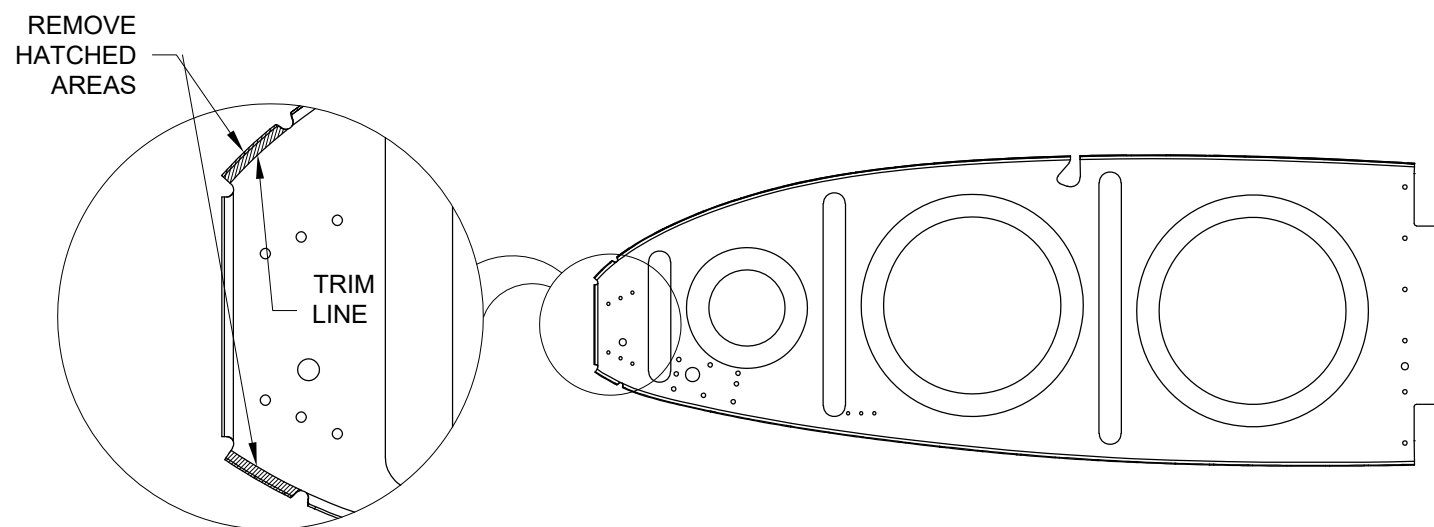

FIGURE 2: W-1208-1 NOSE RIB FWD FLANGE TRIM
Step 3: Take five of the 13 W-1208-L-1 Nose Ribs that you just trimmed and trim off the upper and lower forward flanges as shown in Figure 2.
Step 4: Select the one W-1208-L-1 Nose Rib that is untrimmed and trim the forward upper and lower flanges as shown in Figure 2.
Step 6: Select two of the seven W-1208-R-1 Nose Ribs with the aft flange trimmed and trim the forward upper and lower flanges as shown in Figure 2.
Step 7: Select four of the seven W-1208-R-1 Nose Ribs that are untrimmed and trim the forward upper and lower flanges as shown in Figure 2.